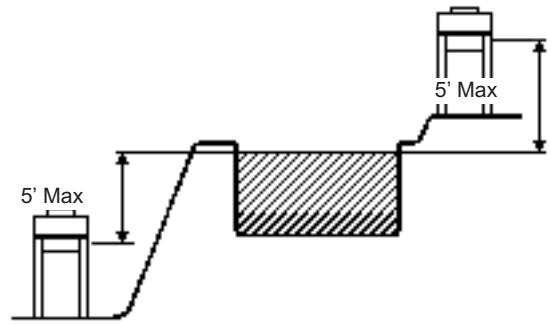

Fig. 23: Heat Exchanger Height Above/Below Pool
**NOTE:** If heater is installed outside of the limits shown in Fig. 23, a flow switch must be used in place of the pressure switch when mounted and wired adjacent to the heater.